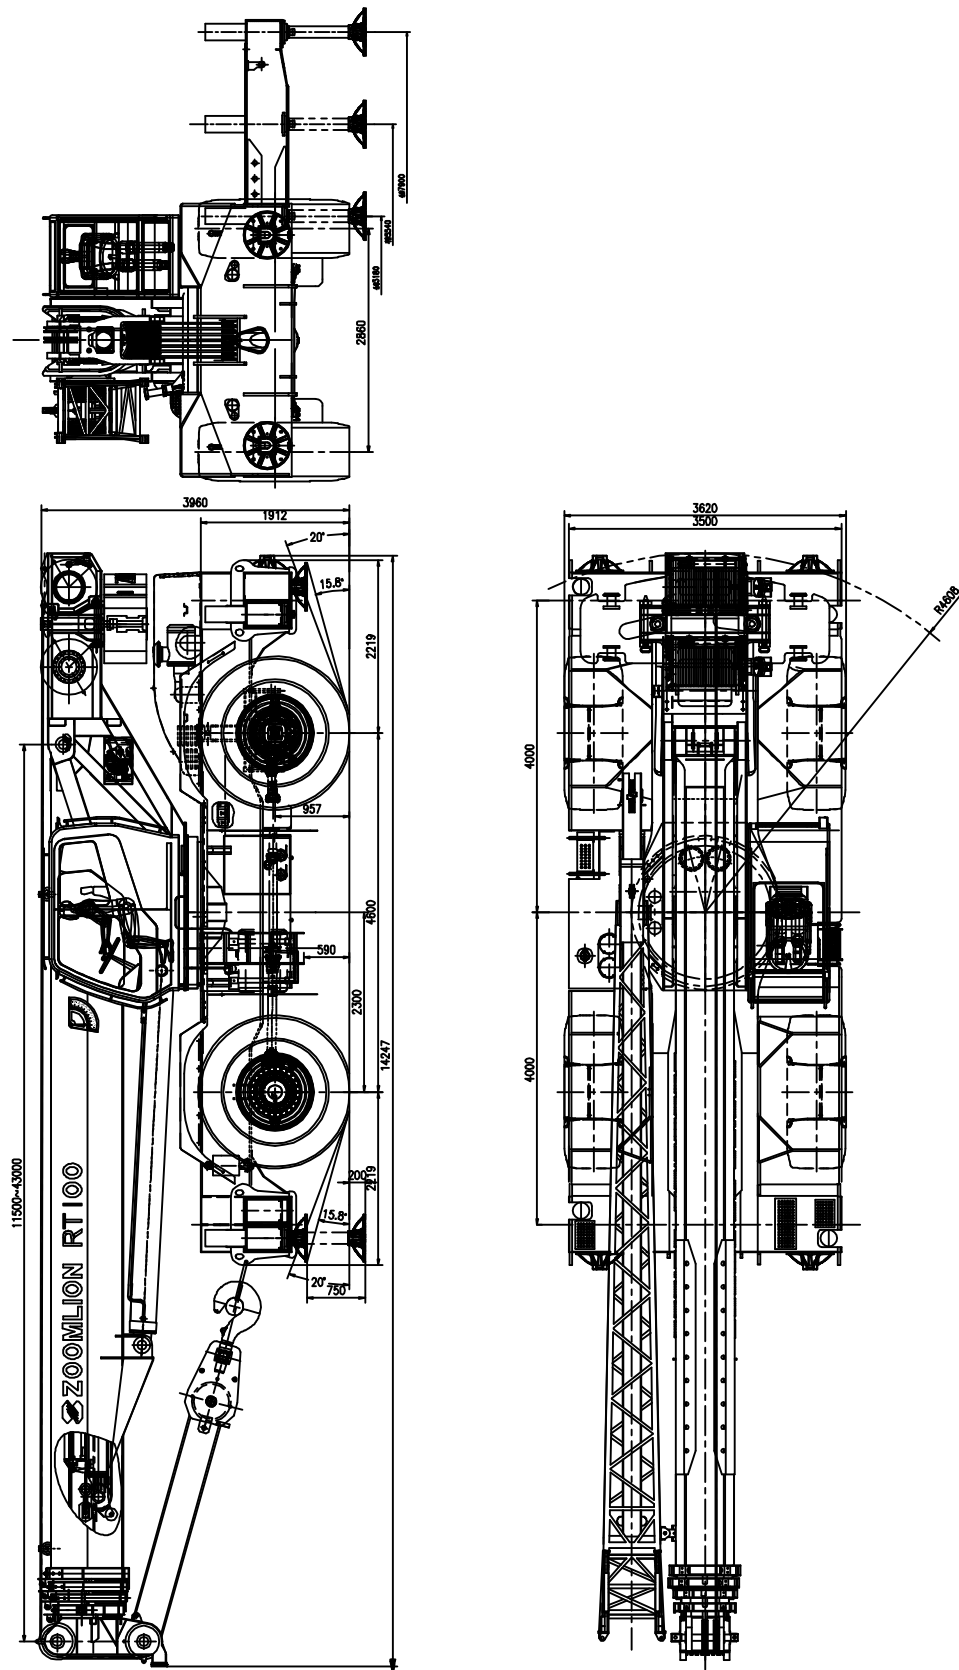

Figure 09 – 1 Overall View – RT100 Rough Terrain Crane
- (1) Four steering modes: 2-wheel steer (front wheel), 2-wheel steer (rear wheel), 4-wheel steer and Crab steer
- (2) Max. rated lift capacity: 110ton at 9.8ft (100 T at 3 m)radius
- (3) Max. lift height: 149.6ft (45.6 m)
- (4) Max. travel speed: 15mph(24 km/h)
- (5) Overall dimensions: 46.7ft × 11.9ft × 13ft(14247 mm × 3620 mm × 3960 mm)(Refer to Figure 09 – 1)
- (6) Deadweight: 71.7ton(65 T)
- (7) Ability to pick-and-carry loads
- (8) Rough terrain travel performance.